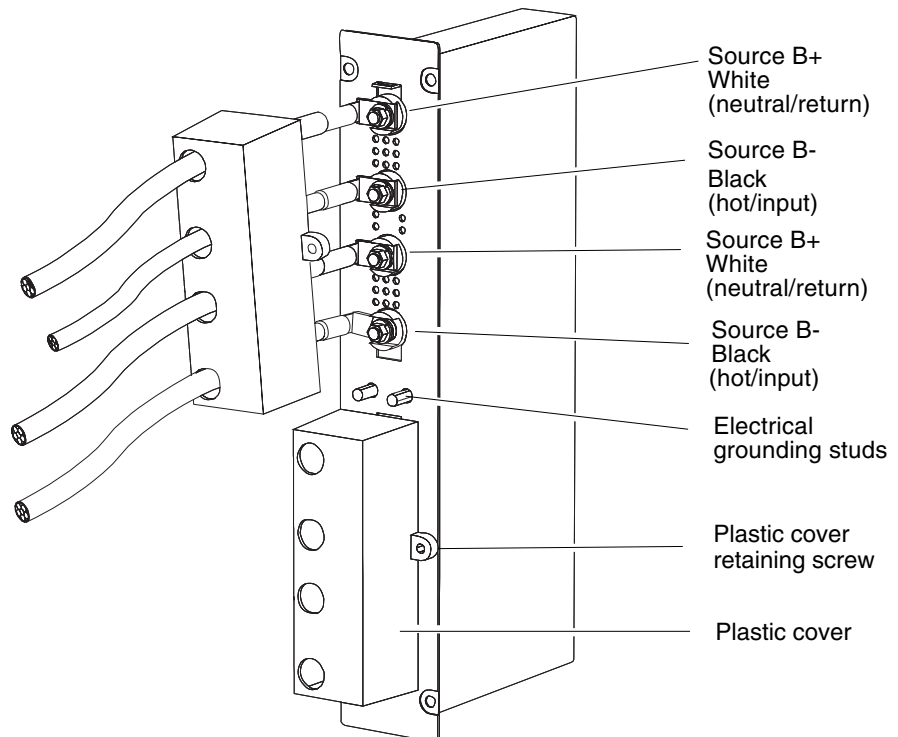

FIGURE 1-24 DC Inlet Box With Source B Plastic Cover Removed and Connectors Exposed
2. Remove the plastic covers from the DC inlet box (FIGURE 1-24).
- e. Ensure that an earth strap for each feed pair is connected to the electrical earth studs (FIGURE 1-24).